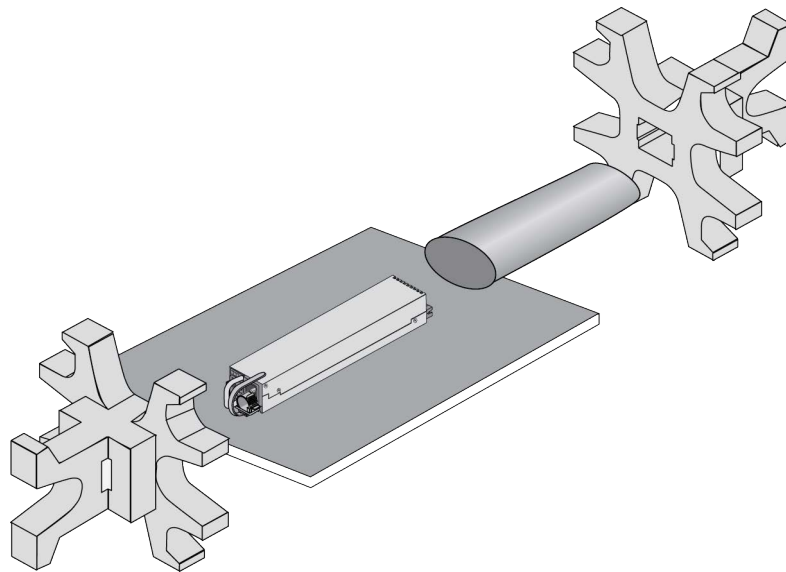

Figure 58. Removing the Power Supply from the Shipping End-caps and Protective Bag
4. Remove the power supply from the shipping end-caps and protective shipping bag. Refer to Figure 58.